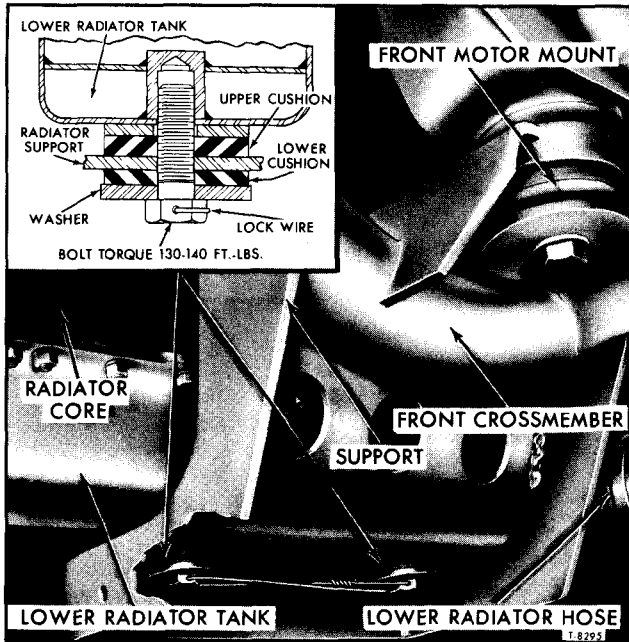

Figure 3—Radiator Mounting (Models HC, JC, HH, and JH90; DC, FC90 with NTC 335 Engine) (Typical)
Radiator lower mounting as shown in figure 3, is of the foot-mounted type.
6. Remove lockwire, two bolts, washers, and cushions (fig. 3) from radiator support.
8. With a chainfall (using sling) carefully lift radiator assembly from vehicle. Remove upper cushion (fig. 3).
NOTE: Be sure to install upper cushion on radiator support (fig. 3).
2. Install washers and cushions on two bolts (fig. 3). Install bolts through radiator support and upper cushion into lower radiator tank. Torque bolts to 130 to 140 foot-pounds. Install lockwire.
7. Remove lockwire, two bolts, washers, and cushions (fig. 3) from radiator support.
NOTE: Install upper cushion on radiator support (fig. 3).
2. Install washers and cushions on two bolts (fig. 3) and install through radiator support and upper cushion into radiator lower tank, then torque bolts to 130 to 140 foot-pounds. Replace lockwire.